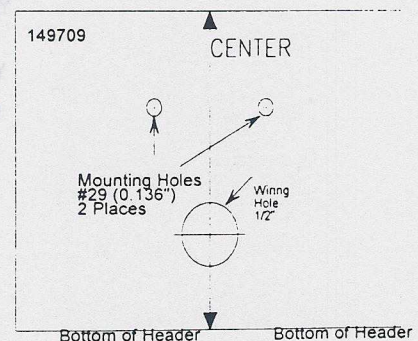

Figure 3
2. Locate the center of the header. Use the sticker provided in the mounting kit (See Figure 3) to mount the bracket at the bottom edge of the header.